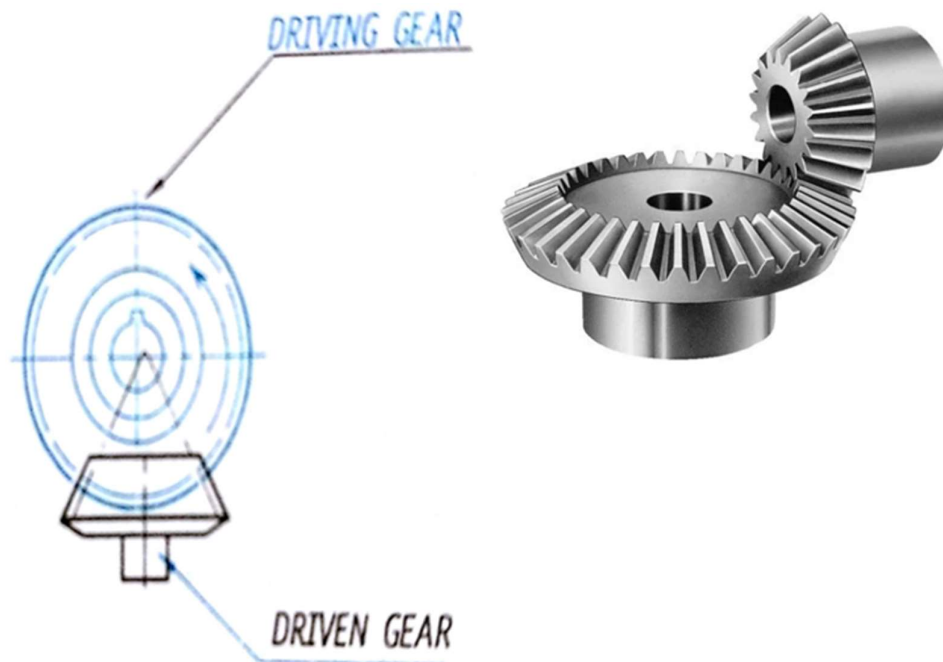

Fig. 3. Bevel Gear
- When the axes of the two shafts are inclined to one another, and interest when produced, bevel gears shown in Fig. 3.